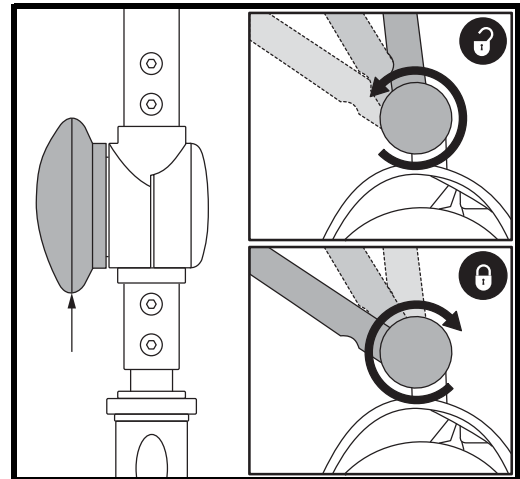

Figure 17. Tiller Adjustment Knob
TILLER ANGLE ADJUSTMENT (See figure 17)
1. With the seat and battery pack removed (see Disassembly Procedures on previous page), lower the tiller and tighten the tiller adjustment knob. See **figure 17**.
3. Raise the tiller and fully tighten the tiller adjustment knob. See **figure 17**.